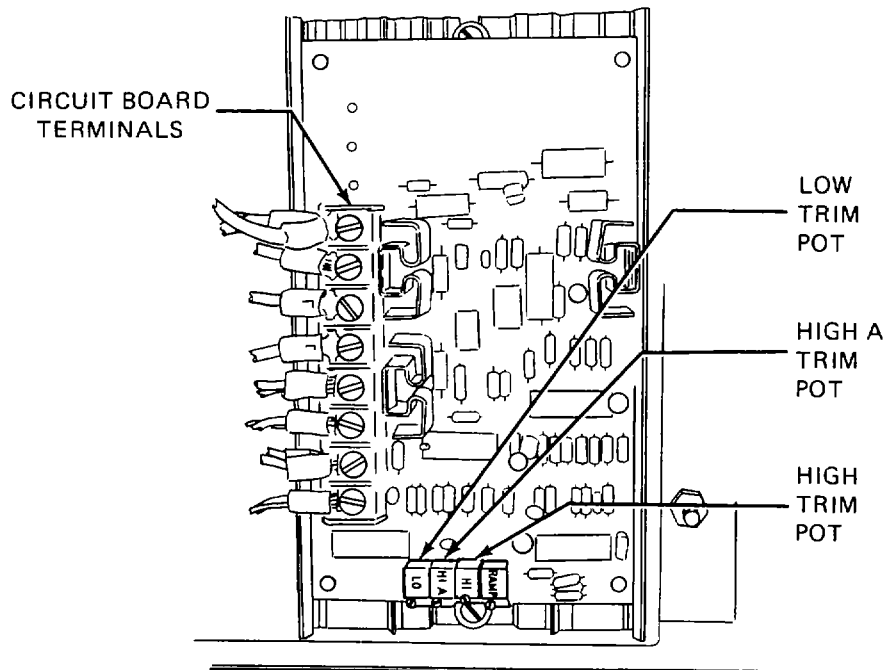

Figure 4-4. Circuit Board Adjustments.
- c. Using a multimeter, place negative (-) probe at ground and positive (+) probe at "B" terminal on circuit board (Figure 4-4).
- (1) Engage DRIVE toggle and pull handle to reverse just past the point at which a reading occurs on the meter. Hold handle in this position.
- (2) Adjust LOW (LO) trim pot to 5 volts. (Clockwise increases voltage, counterclockwise decreases voltage.)
- (3) Push handle full forward.
- (4) Adjust HIGH (HI) trim pot to 12 volts.